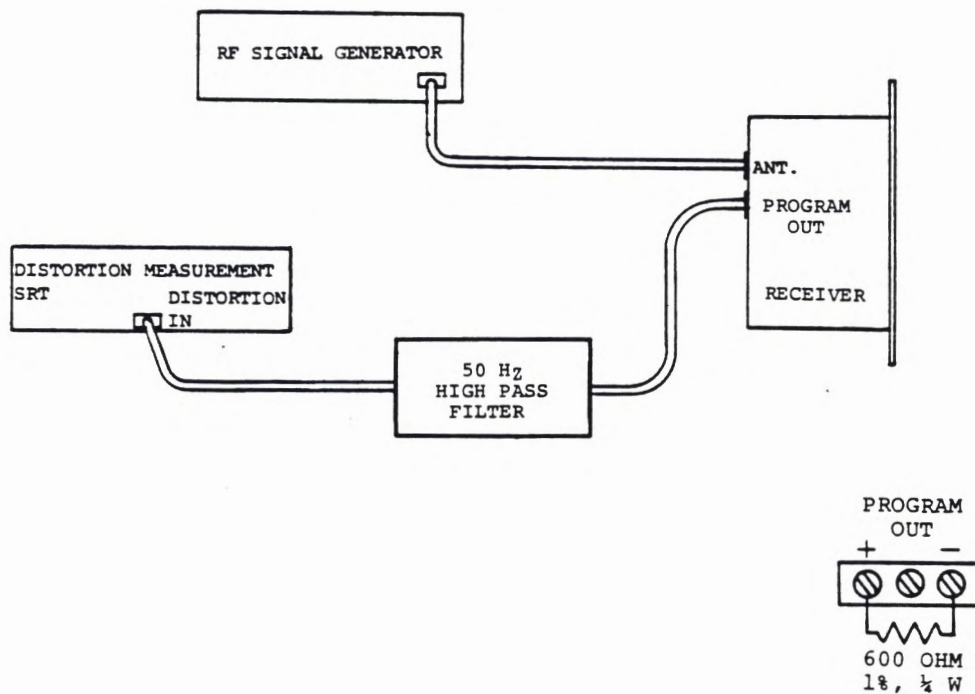

Figure 6-2. Sensitivity test setup.
1. Connect the equipment as shown in Figure 6-2, and set the controls on the signal generator as follows: